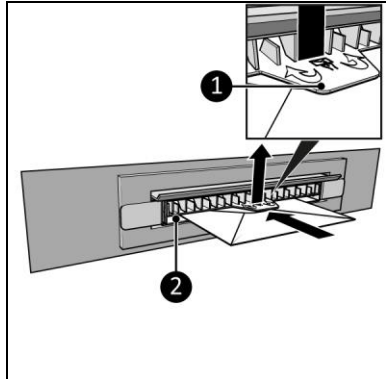

Figure 9
1. Pull the handle (Figure 9, pos. 1) upwards and push a letter (max. 5 mm) through the mailbox slot (Figure 9, pos. 2).